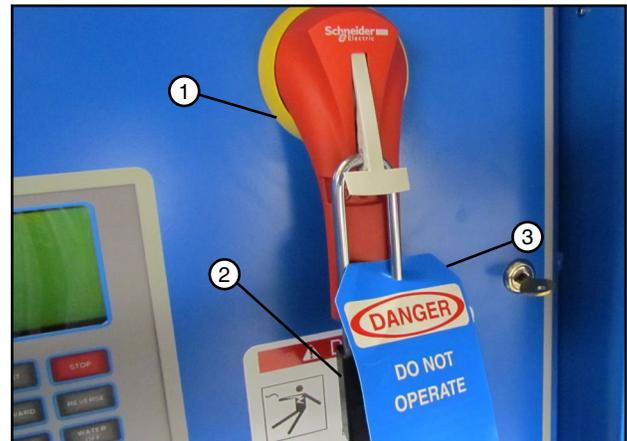

Figure 39-2 1. Main Disconnect
2. SHUT OFF and lock the control panel main power disconnect. See figure 39-2.
FILL OUT the blue (OSHA safety color code) tag and attach to the disconnect after locking. See figure 39-2.